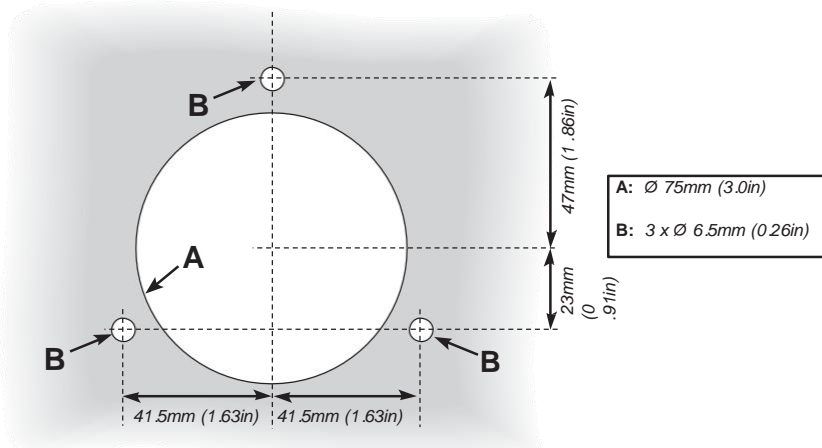

Fig B15 - Mounting holes for modified tilt mechanism mounting plate
- Refer to Fig B15 for the required hole centres to fit the tilt mechanism mounting plate. As the plate is designed to fit a standard TFX tilt mechanism the existing holes should be correct.